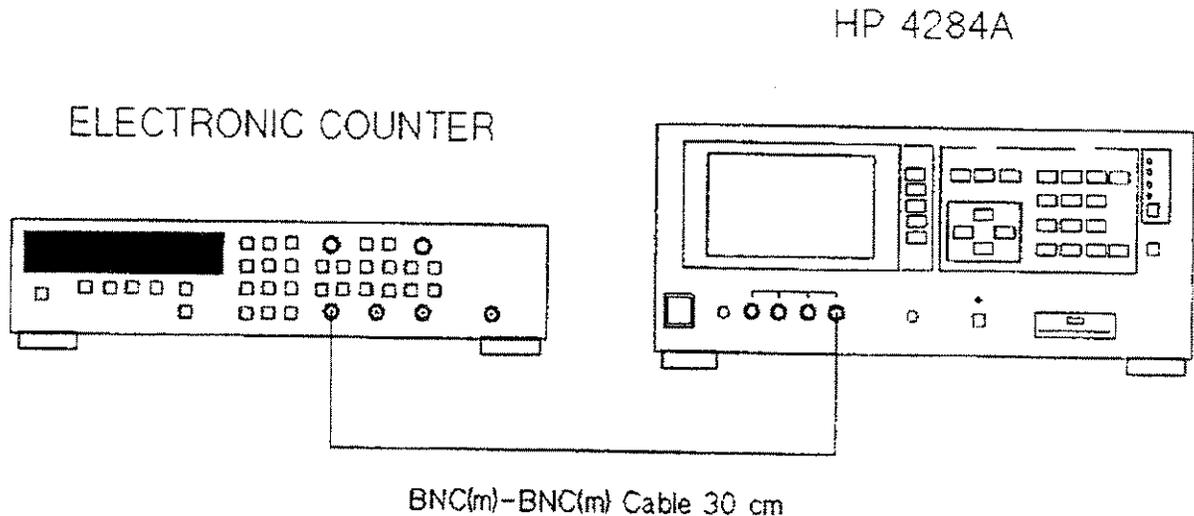

Figure 10-1. Test Frequency Accuracy Test Setup
1. Set up the equipment as shown in Figure 10-1.